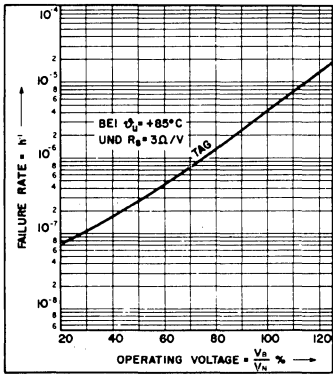

Fig. 12 Reject Rate vs Applied Voltage
This can be compensated by voltage derating. See figures 12, 13, and 14.
The reject rate increases with applied voltage  $V_B$  and ambient temperature and falls with increased circuit resistance  $R_S$ . As a result of comprehensive life-tests the reject rate has been determined as a function of  $V_B$ , and  $R_S$ . The reject rate for catastrophic failures for the particular case can be determined from Fig. 12 to 14 as follows:
1. Determine the reject rate of  $F_R''$  as a function of the applied voltage from Fig. 12 with  $V_B = +85^\circ\text{C}$  and  $R_S = 3\Omega/V$ .
$$V_B = 50\% \quad F_R'' = 2.8 \cdot 10^{-7} \cdot h^{-1} \quad (\text{from Fig. 12})$$